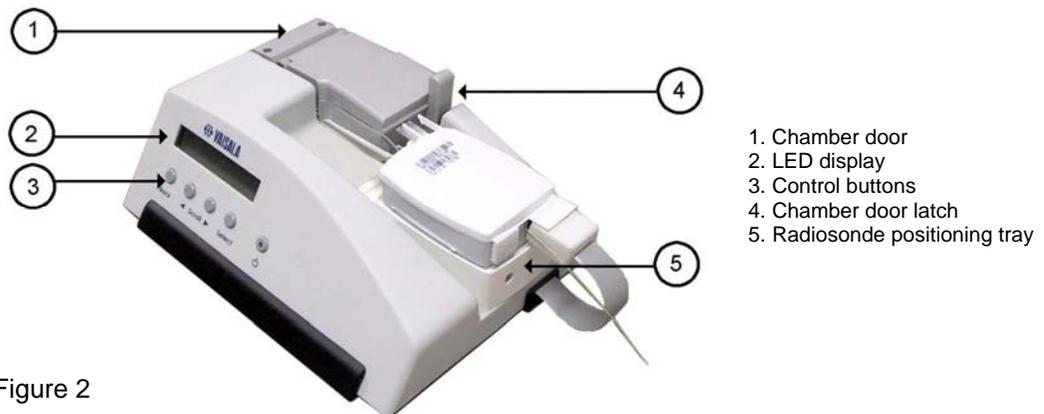

Figure 2
- 3) Open the GC25 Ground Check Set chamber door by releasing the latch (see Figure 2).
- 4) Carefully place the RS92 with its barcode label up as shown in Figure 2, making sure it fits in the indentation on the positioning tray. Close the chamber door.
- The temperature box should be automatically filled in. If not, enter the temperature shown on the GC25 unit LED display window (see Figure 2) in the blank temperature box.